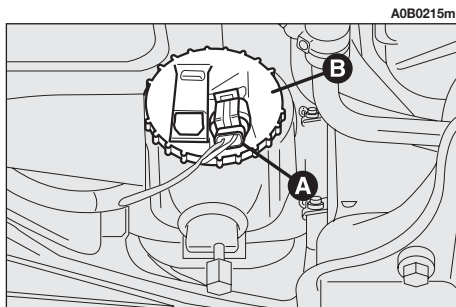

fig. 33
- Disconnect the connector (**A-fig. 33**) from the light unit.
- Turn the cover counter-clockwise (**B-fig. 33**) and remove it.
— refit the cover (**B-fig. 33**) and connect the connector (**A-fig. 33**) to the light unit.